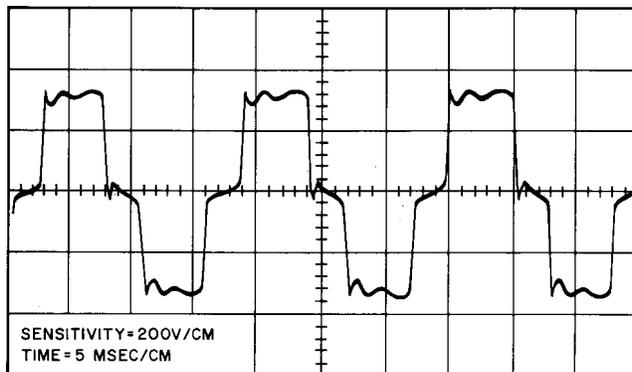
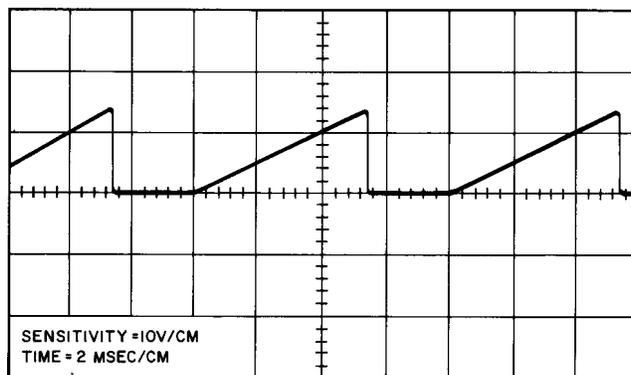

Fig. 17—Unfiltered Inverter Output Waveform
Fig. 18—Slave Oscillator Waveform
- (1) Operate INPUT switch (S501) to ON and switch S101 to OFF.
- (2) Check that the unfiltered inverter output waveform at TP511-TP512 is correct per Fig. 17.
- (3) If the waveform is approximately as shown, with a symmetrical shape and a fairly high ratio of positive or negative time to zero time, the trouble may be in the output filter.
(4) Check C513-C515 for a short.
(5) If the waveform is symmetrical but with a high percentage of zero time, operate INPUT switch (S501) to CHARGE AND S101 to ON.
(6) Check that the waveform between TP401-TP406 is similar to Fig. 18.
(7) If the waveform shows the same peak voltage but too rapid a rise, check Q301 and CR312 (should have approximately 8 volts across it).
(8) If the trouble is not found, replace the regulator circuit pack.
(9) If there is little or no rise to the peak level shown, check for a defective CR314, Q401, CR407, CR408, or shorted C401.